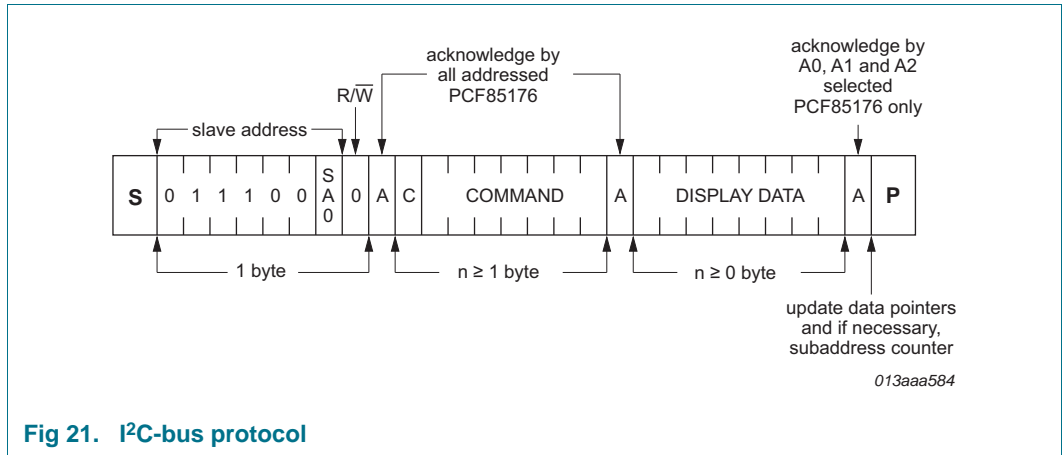

Fig 21. I²C-bus protocol
The I²C-bus protocol is shown in Figure 21. The sequence is initiated with a START condition (S) from the I²C-bus master which is followed by one of the two possible PCF85176 slave addresses available. All PCF85176 whose SA0 inputs correspond to bit 0 of the slave address respond by asserting an acknowledge in parallel. This I²C-bus transfer is ignored by all PCF85176 whose SA0 inputs are set to the alternative level.